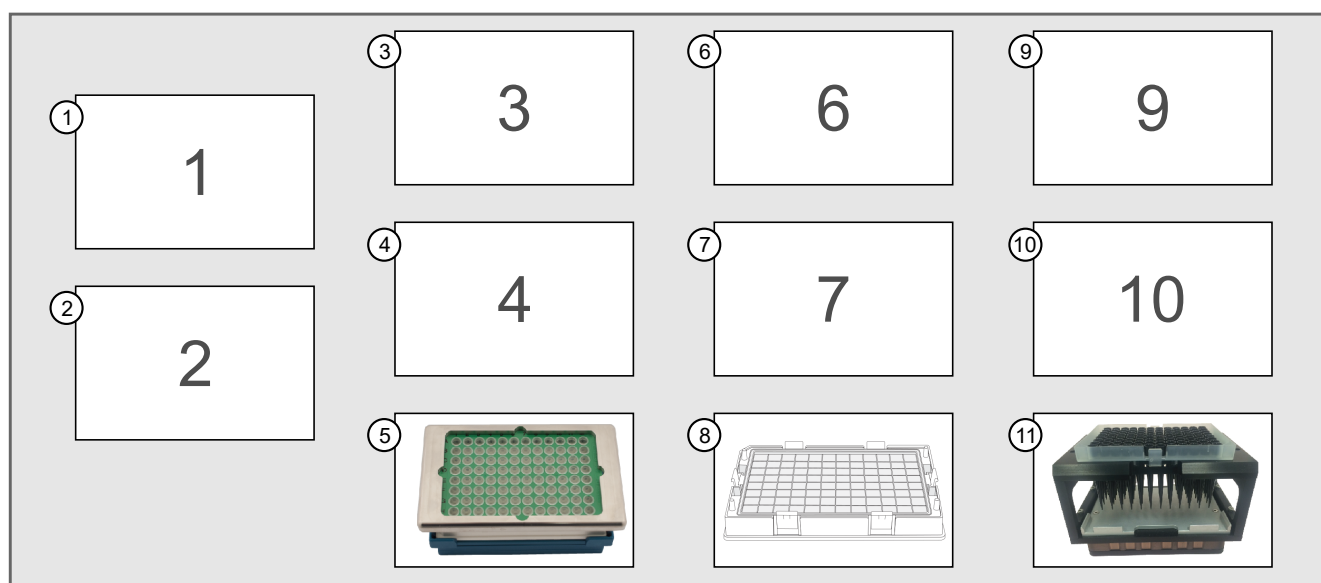

Figure 7 Stage 5: Prepare the hybridization tray deck layout.
2. Set up the deck as indicated in the deck setup prompt and following screens, then click **Run**. See Figure 7.